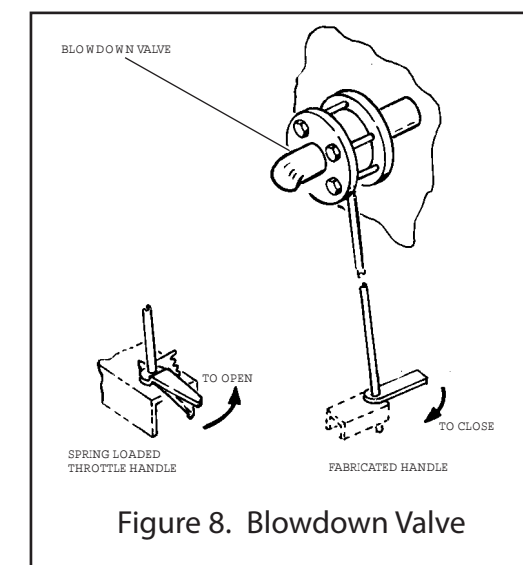

Figure 8. Blowdown Valve
2. Blowdown valve is in closed position (See Figure 8).